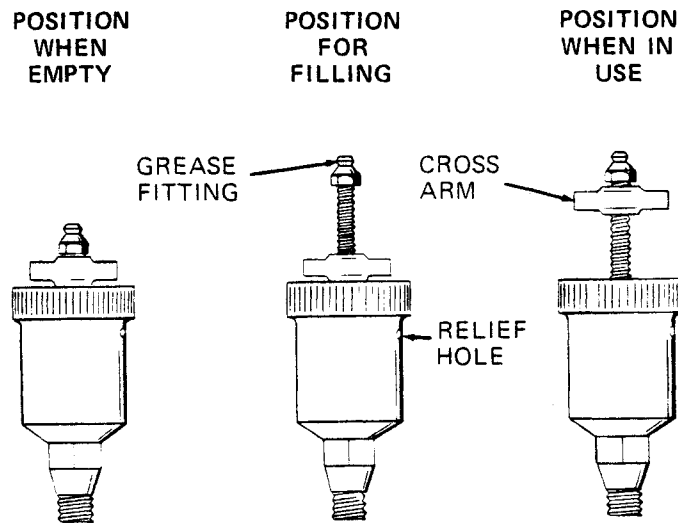

Figure 3. Automatic Lubricating Grease Cup
Before removing the seal assembly, turn the cross arm on the seal grease cup (7) clockwise until it rests against the cover (see figure 3). This will prevent the grease in the cup from escaping after the seal is removed.
Before starting the pump, fill the grease cup through the grease fitting with a good grade of No. 2 pressure gun grease until grease escapes from the relief hole. Turn the grease cup arm counterclockwise until it is at the top of the stem; this will release the spring to apply grease to the seal (see figure 3).